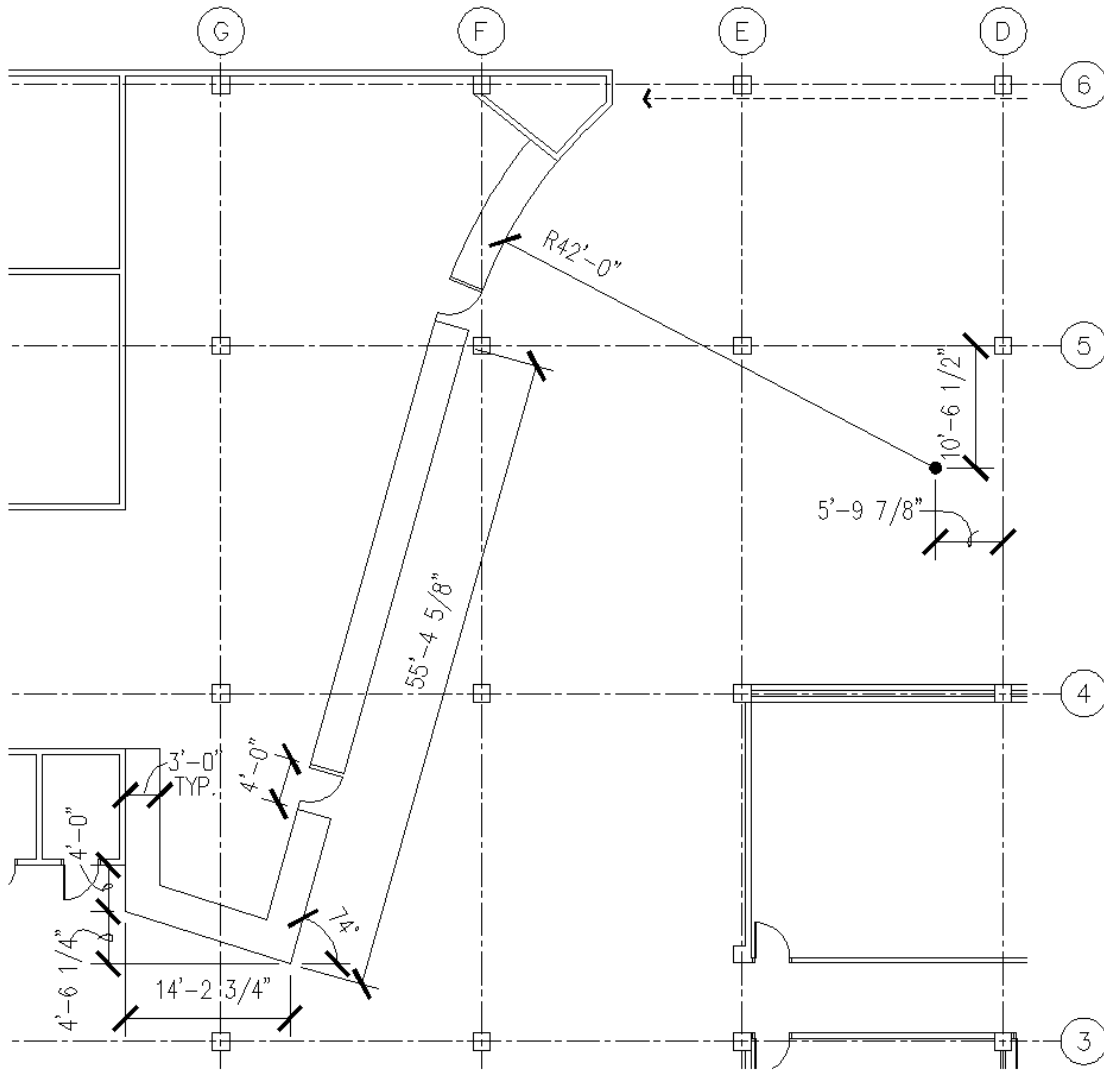

Figure 3-2.4 Drawing the checkout counter casework
Custom casework gives the designer a wide range of functional and aesthetic opportunities. As you can see in the Figure on the next page (Figure 3-2.4), the angles and curves require a custom built solution; these shaped cabinets are not found in a catalog of standard cabinets.
5. Draw the checkout counter shown in Figure 3-2.4, *plus*: